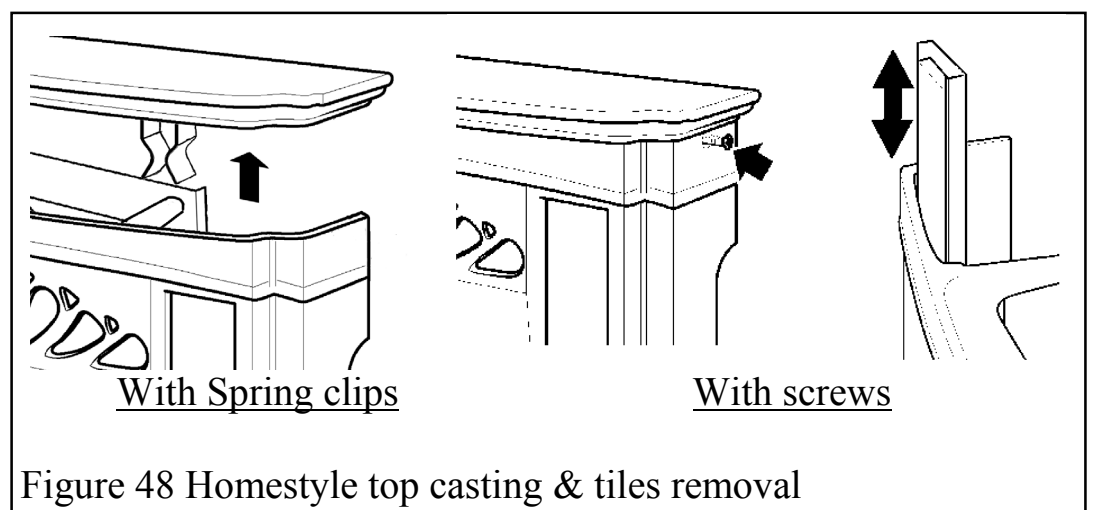

Figure 48 Homestyle top casting & tiles removal
1. The top casting will have to be removed to insert the tile set. Some appliances have the top casting secured to the sides by screws. Other appliances have the top secured by spring clips. If the top is screwed to the sides unscrew the two screws at the top of the side castings until they are loose enough to allow the top to be lifted off. There is no screw thread in the top casting, only in the side castings - See figure 48. If no screws are visible the top can be removed by pulling it firmly upwards to release the spring clips - See figure 48.
2. Remove the complete tile cassette by sliding the cassette channel up and out of the front casting. See figure 48. Alternatively,